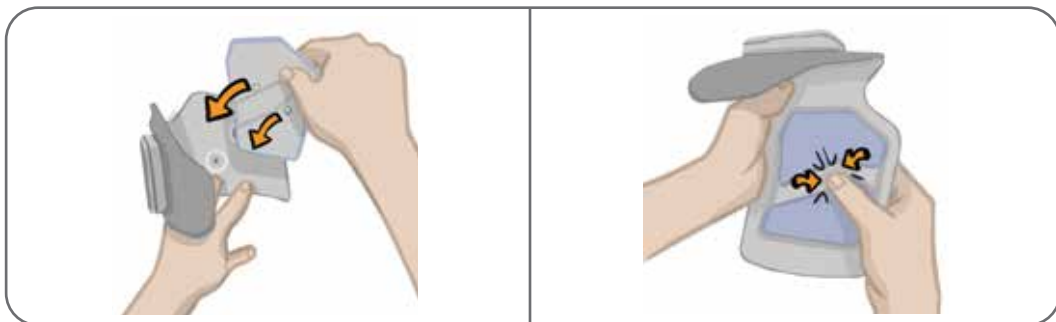

Figure 6-4: Aligning and Attaching the Quick Fit Electrode
5. Align the orange and blue snaps on the Quick Fit Electrode with the orange and blue holes on the Lower Leg Cuff. See Figure 6-4.
6. Press firmly to snap the Quick Fit Electrode into the Lower Leg Cuff. See Figure 6-4.